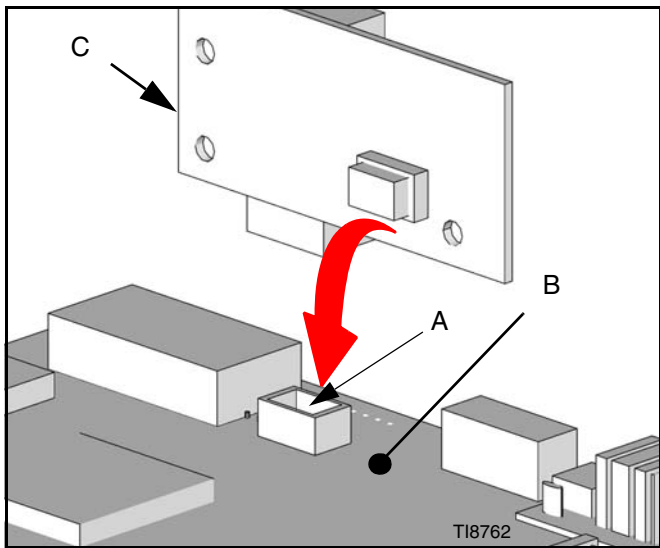

FIG. 38
4. Locate the 10 pin Expansion Connector J9 (A) on the lower right of the EasyKey Display Assembly 249480 (B). See FIG. 38.